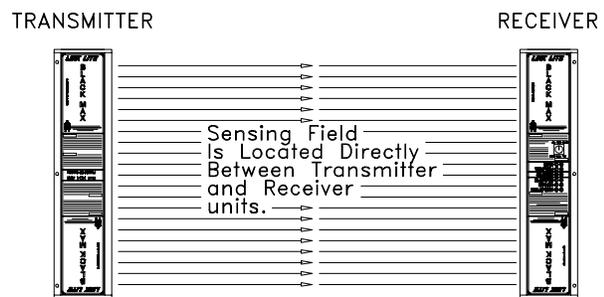

Figure 4.1: Illustration of sensing field location between main Black Max transmitter and receiver units when no blanking is used.
1. Link Lite Black Max light curtain presence sensing devices are designed and manufactured to comply with OSHA and ANSI standards for construction of point of operation devices. Properly installed, located, adjusted and used presence sensing devices enhance personnel safety by preventing normal initiation of hazardous machine action or by stopping normal hazardous action in progress if the operator's (or other's) hand or other body part are in the sensing field (the plane directly between the Black Max transmitter and receiver units as shown in Figure 4.1).